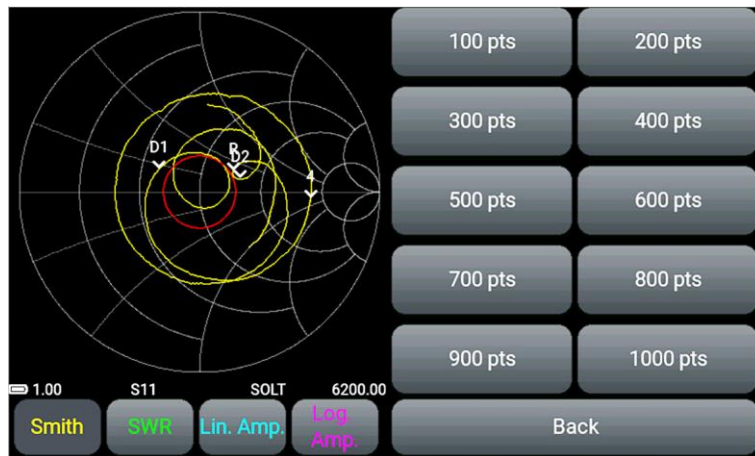

Figure 9.5 - Points, menu for selecting scan points
9.2.6. In the **Points** menu (figure 9.5), select the number of scan points. The frequency step and scan time depend on the set number of points. The correct selection of the number of points and the scanning range allows you to improve the resolution of measurements in the **DTF** and **Cable Loss** plots.